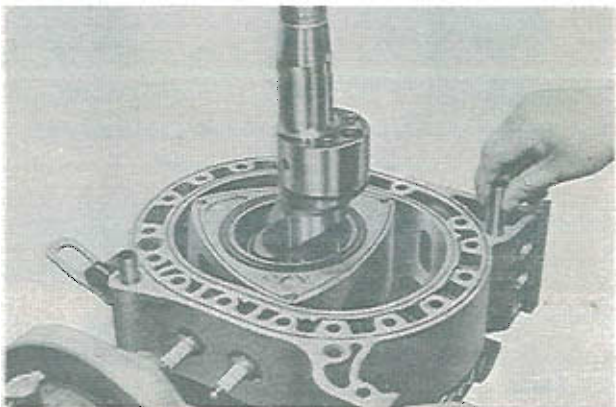

Fig. 1-73 Installing tubular dowel
4. Apply engine lubricant onto the tubular dowels and insert the tubular dowels through the front rotor housing holes into the front housing holes as shown in Fig. 1-73.